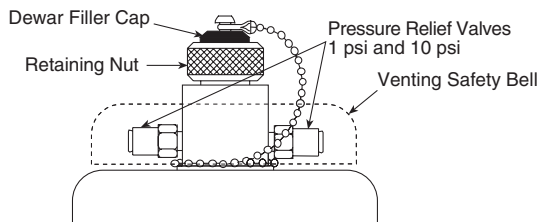

Figure 13. Dewar Ports and Valves
1. After the vacuum chamber, to which the camera is mounted, has been properly evacuated, loosen the retaining nut (Figure 13) a few turns, then remove the LN Dewar port cap by pulling it straight out.
It is normal for there to be an occasional hiss from the 1 lb safety valve (at the top of the Dewar, see Figure 13) during operation. ***However, if the hissing is continuous or a louder hiss begins to come from the 10 lb safety valve, the 1 lb valve may be blocked by frost buildup or there may be a potentially catastrophic buildup of pressure inside the Dewar.***